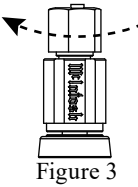

Figure 3
- Rotate the top of the Output Terminal Post clockwise until it is finger tight. Refer to figure 3. Then using the McIntosh Wrench, rotate the top of the Output Terminal one quarter of a turn (90°). **Do not over tighten.**